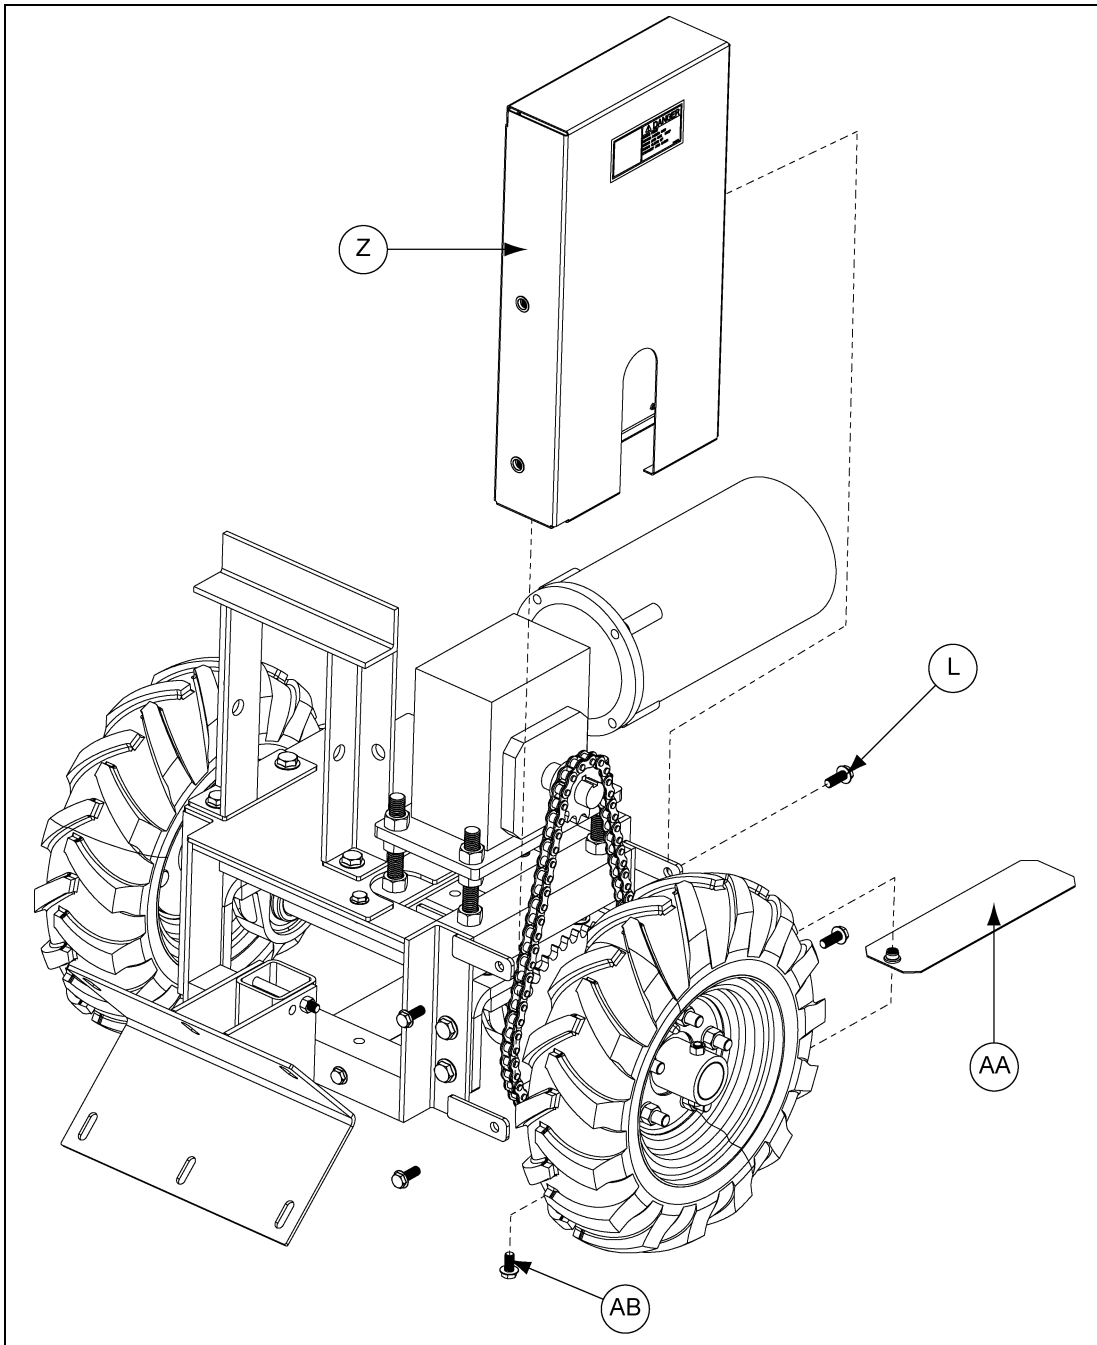

Figure 4Y
20. Install the top chain guard assembly (Z) to the tractor frame using four (4) 3/8"-16 x 1" flange bolts (L). Slide the bottom chain guard assembly (AA) through the slot on the top chain guard and secure it with a 3/8"-16 x 3/4" flange bolt (AB). (See Figure 4Y.)